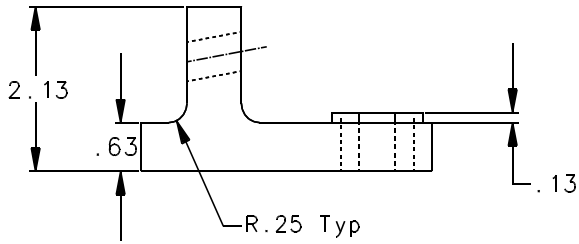

Figure 54
- Figure 54 shows the location of the .63 dimension.